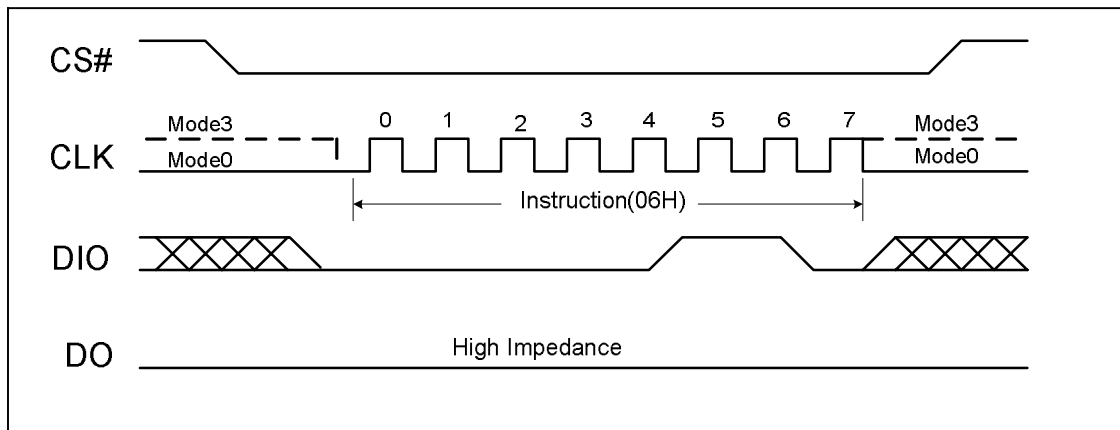

Figure 7, Write Enable Instruction Sequence Diagram
The Write Enable instruction (Figure 7) sets the Write Enable Latch (WEL) bit in the Status Register to a 1. The WEL bit must be set prior to every Page Program, Sector Erase, Block Erase, Chip Erase and Write Status Register instruction. The Write Enable instruction is entered by driving CS# low, shifting the instruction code “06h” into the Data Input (DI) pin on the rising edge of CLK, and then driving CS# high.